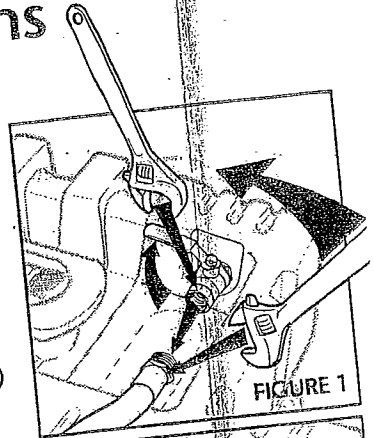

FIGURE 1
2. Move the Gas Walker valve handle to the closed position. (Figure 1)
3. Remove the Gas Walker hose assembly from the ball valve using two wrenches. (Figure 1)